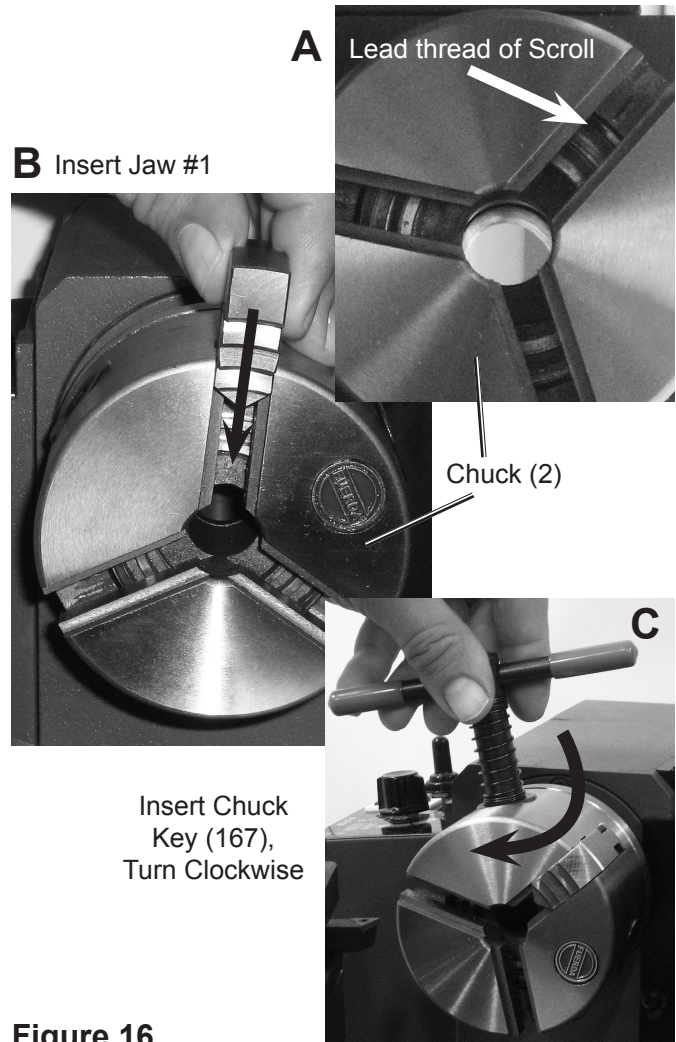

Figure 16
- b. Place a towel under the Chuck to protect the Bed Way (1) from any Jaws that may be dropped. Carefully remove any Jaws by inserting the Chuck Key (167) into the side of the Chuck, turning it counterclockwise, and sliding each Jaw out of it's slot as it becomes free.
- c. Look at the Chuck so you can see into the grooves, and find the groove marked #1. Rotate the Chuck Key clockwise until you see the lead thread of the Scroll in groove #1 (A in Figure 16).
slightly, then clockwise, to engage the lead thread into the Jaw (B and C in Figure 16).